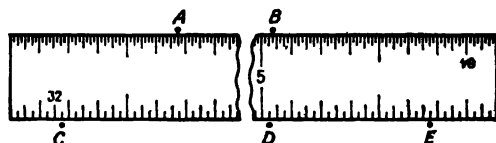

Fig. 3-9.
5. What are the readings in Fig. 3-9 at points A, B, C, D, and E?